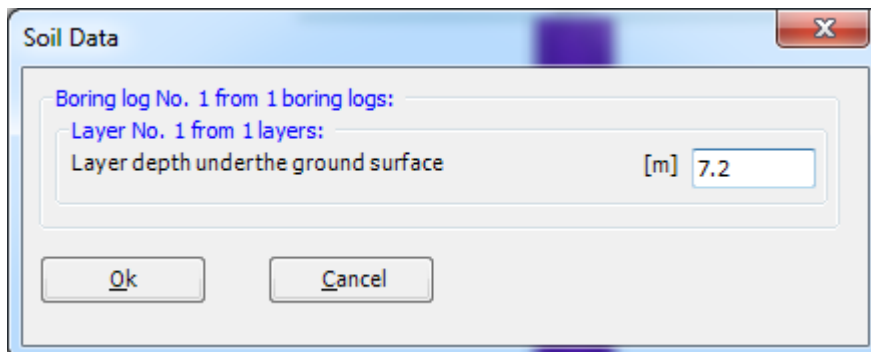

Figure 9.18 "Layer depth under the ground surface" edit box
- Double-click on the layer depth. The corresponding edit box appears allowing you to modify the layer depth under the ground surface, Figure 9.18